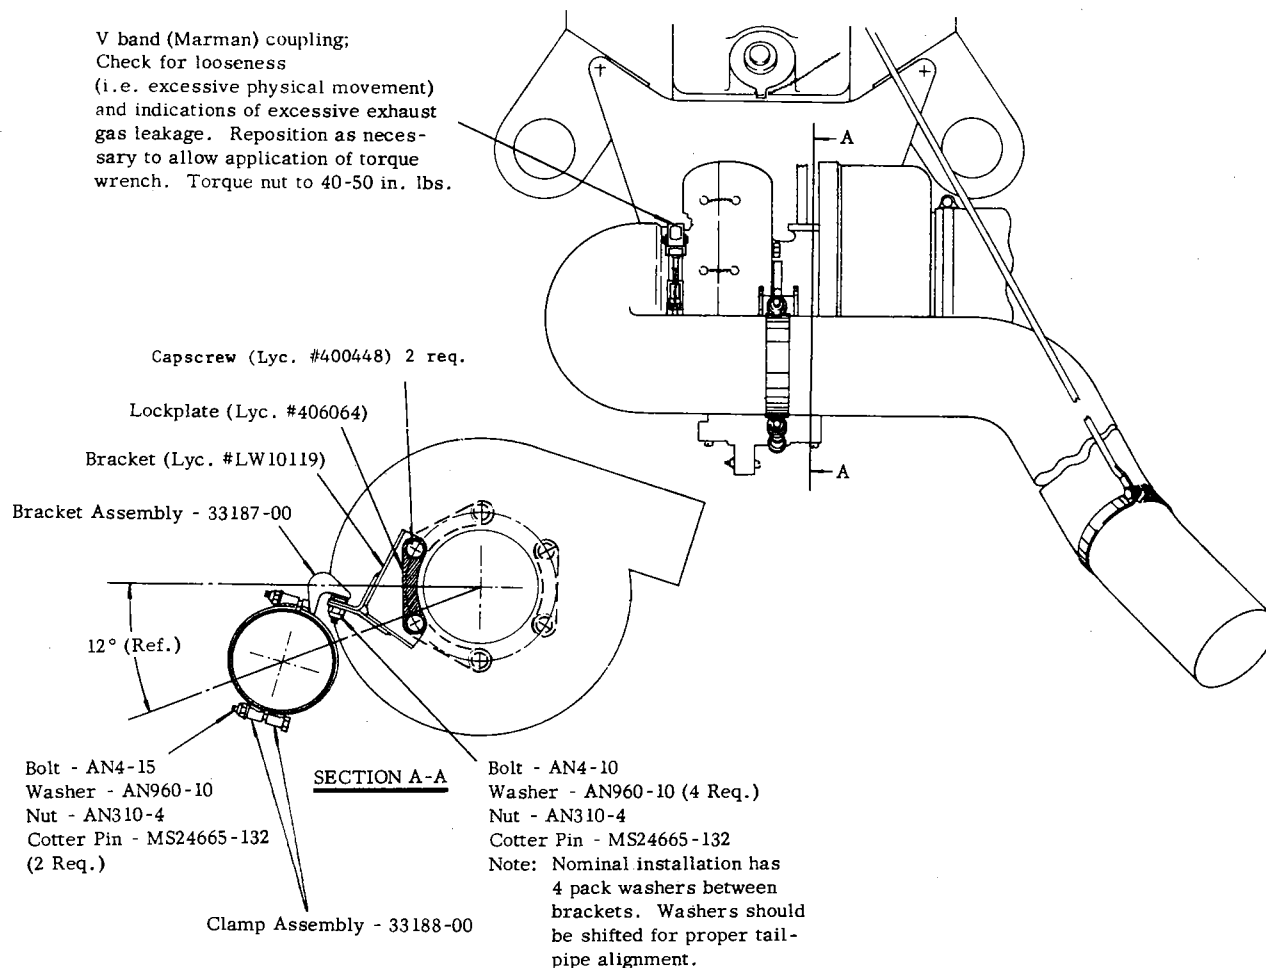

Figure 3. Assembly Procedure for Tailpipe Bracket and Clamp Components
1. Remove inboard and outboard engine cowl panel assemblies and grasp the tailpipe assembly to determine if movement is discernible between the tailpipe and the turbine outlet at the v-band coupling (Marian clamp). See figure 3. If movement is evident remove the bottom cowl assembly and remove the v-band coupling; reinstall it and tighten the coupling nut to 40-50 in. lbs. torque.
5. See figure 3 for installation of tailpipe bracket and clamp assembly.